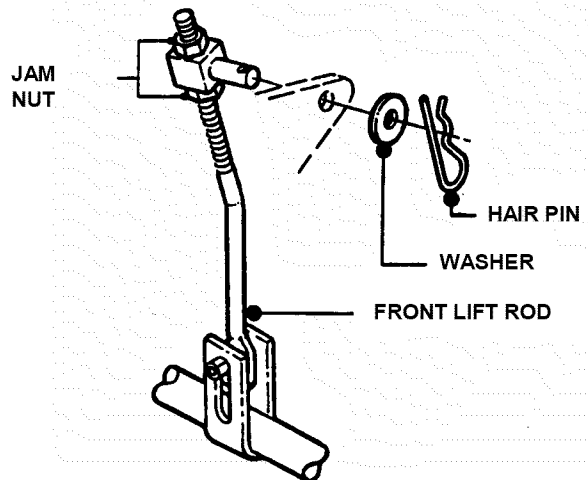

**FIGURE 4.11**
**NOTE:** The deck should be set so that the rear of the deck is 1/4" lower than the front. See Figure 4.11.